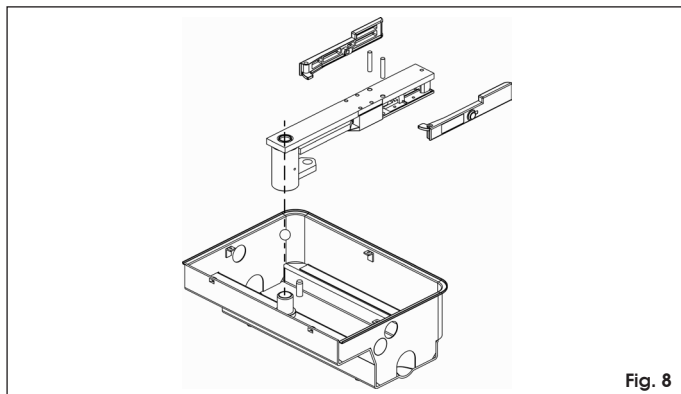

Fig. 8
1. Assemble the release levers on the support bracket, and fit the latter on the pivot in the foundation box, also inserting the ball supplied (Fig. 8).